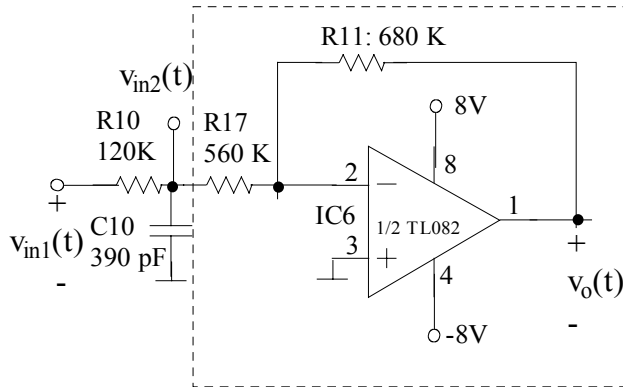

Figure 3.37 Loudspeaker amplifier-first stage
9. The loudspeaker amplifier is given in Appendix A. We analyzed the LPF formed by R10 and C10 in this chapter already. This piece of circuit is part of the first stage in loudspeaker amplifier. This first amplifier stage is shown in Figure 3.37.